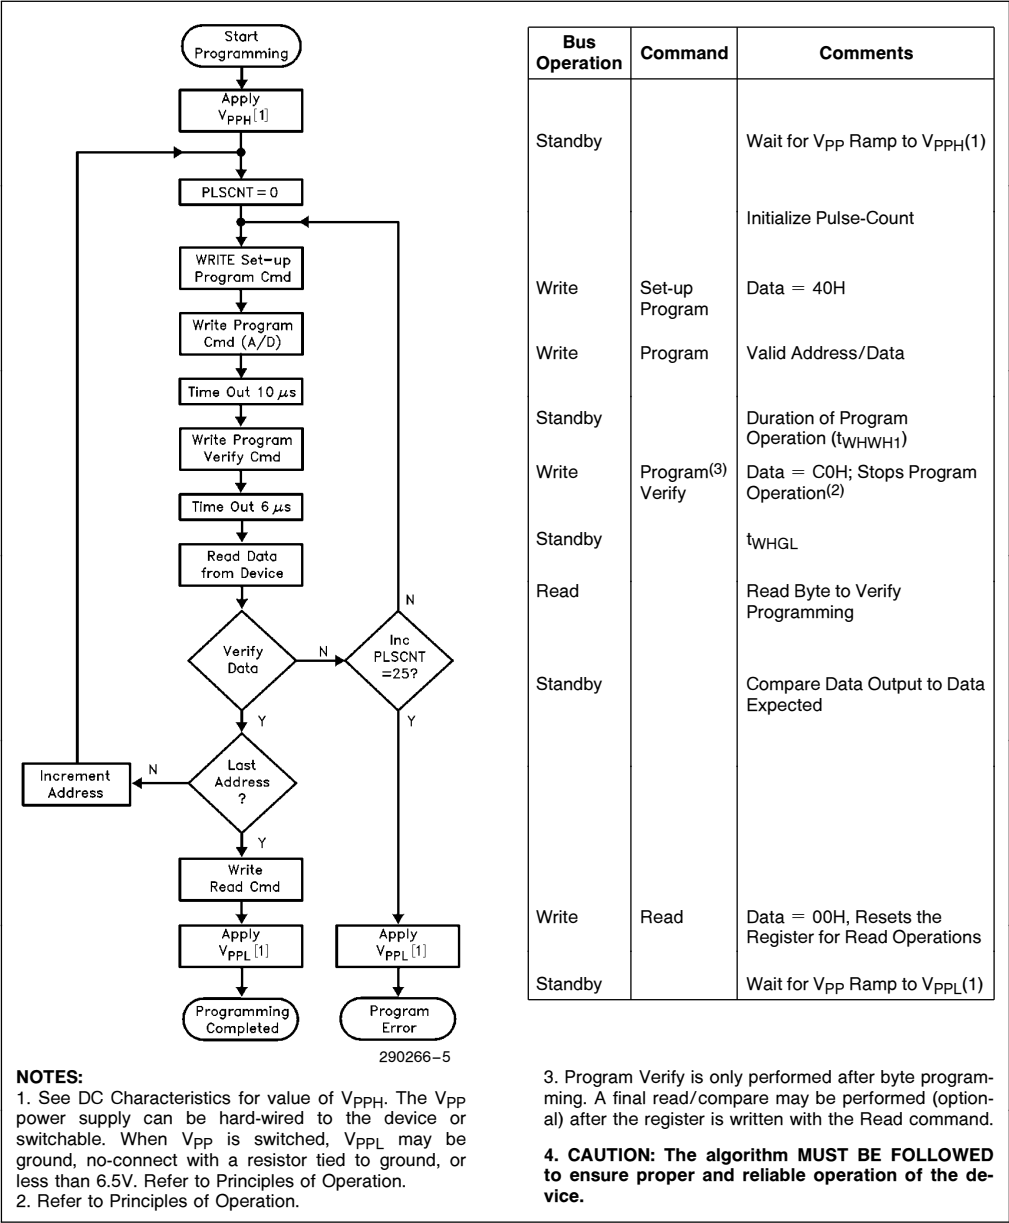

Figure 4. 28F010 Quick-Pulse Programming Algorithm
6. Figure 4 illustrates the Quick-Pulse Programming Algorithm.
The 28F010 applies an internally-generated margin voltage to the byte. A microprocessor read cycle outputs the data. A successful comparison between the programmed byte and true data means that the byte is successfully programmed. Programming then proceeds to the next desired byte location. Figure 4, the 28F010 Quick-Pulse Programming algorithm, illustrates how commands are combined with bus operations to perform byte programming. Refer to A.C. Programming Characteristics and Waveforms for specific timing parameters.
The Quick-Pulse Programming algorithm uses programming operations of 10 μ s duration. Each operation is followed by a byte verification to determine when the addressed byte has been successfully programmed. The algorithm allows for up to 25 programming operations per byte, although most bytes verify on the first or second operation. The entire sequence of programming and byte verification is performed with V_{pp} at high voltage. Figure 4 illustrates the Quick-Pulse Programming algorithm.